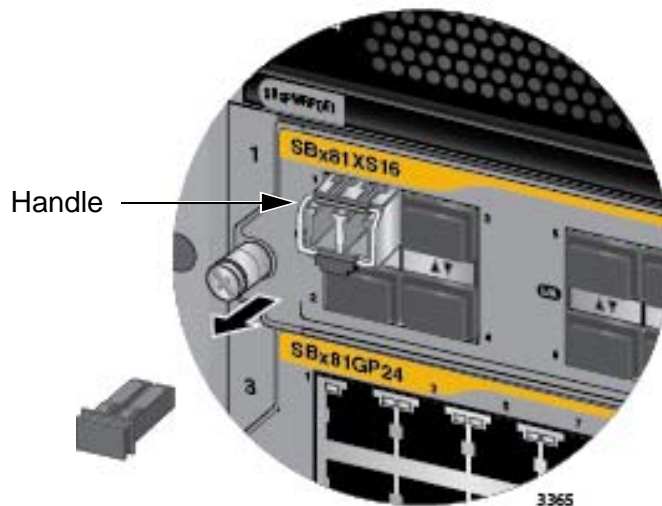

Figure 102. Verifying the Position of the Handle on the Transceiver in the AT-SBx81XS16 Line Card
4. Before connecting the cable, verify the position of the handle on the transceiver. If the transceiver is in an odd numbered slot, the handle should be in the upright position, as shown in Figure 102. If the transceiver is in an even numbered slot, the handle should be in the down position.